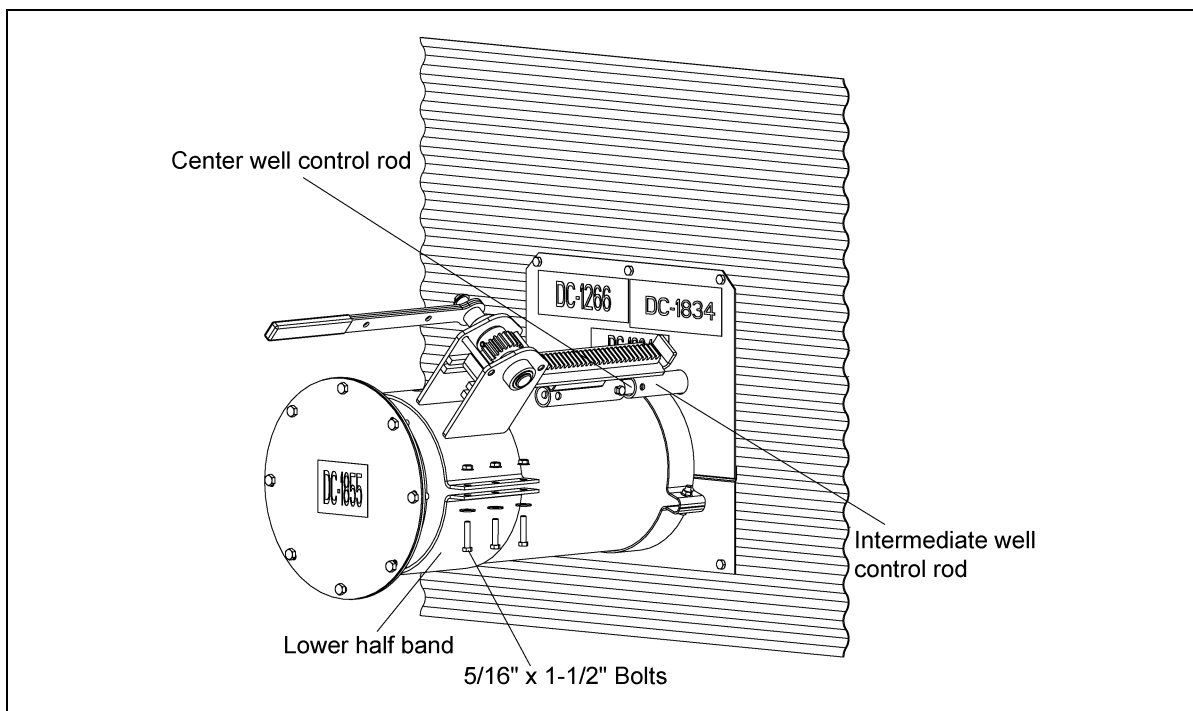

Figure 4R 8" and 10" Systems
- With rack and pinion fully extended, attach lower half band and secure to unload tube with six (6) 5/16" x 1-1/2" bolts, washers, and serrated flange nuts. (See Figure 4R.)